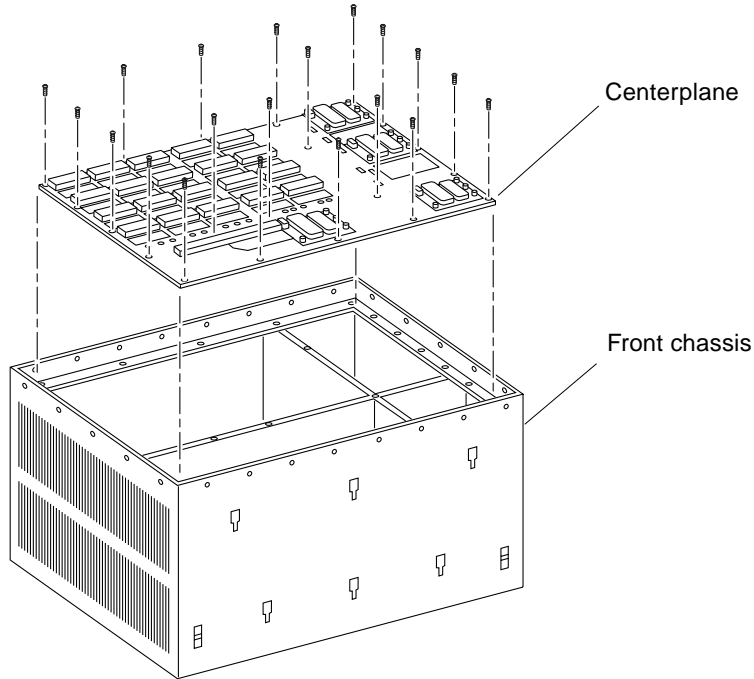

FIGURE 9 Centerplane Replacement Detail
3. Remove the 20 screws that hold the centerplane to the front chassis (FIGURE 9).